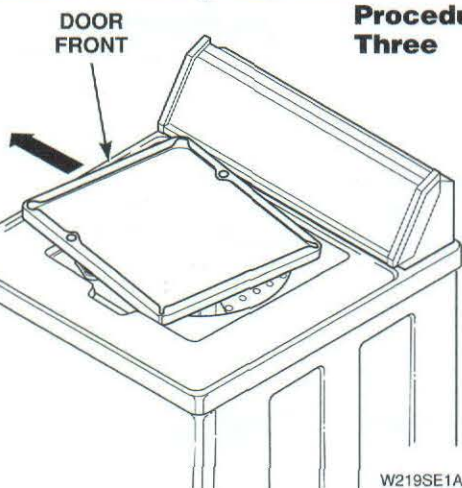

Figure 12
- With loading door raised to vertical position, swing left side of door toward front of washer, *Figure 12, procedure one*.
- Rotate loading door so door is upside down, *Figure 12, procedure two*.
- Carefully remove loading door, right hinge and bushing from cabinet top, *Figure 12, procedure three*.